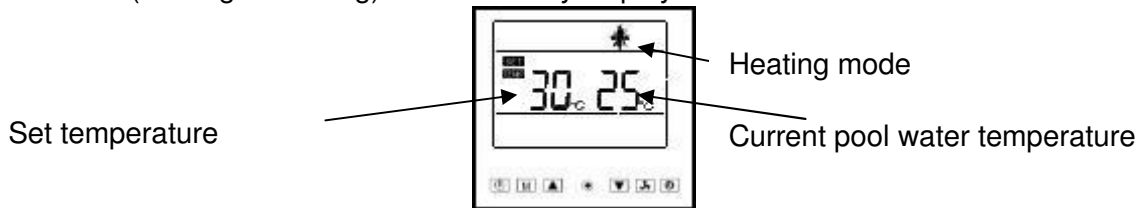
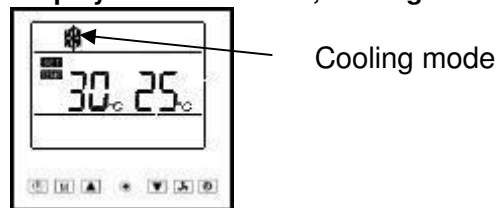

Figure 13: Heat pump display when turned on, heating mode.
Figure 14: Heat pump display when turned on, cooling mode.
To start the heat pump, press . The heat pump starts within 3 minutes. The last selected operating mode (heating or cooling20), see Figure 13, Figure 14 and Paragraph 5.2.13.8, the last temperature set and the current pool water temperature (heating or cooling) is immediately displayed.
- Heating, is displayed, see Figure 13.
- Cooling, is displayed, see Figure 14.
The temperature read by each sensor can be displayed by pressing  (for model BP-xxWS-B (xx=35, 50), press ) and hold down for 3 seconds with the pump is running, see Paragraph 5.2.4. To display temperatures read by the various sensors, press  (for model BP-xxWS-B (xx=35, 50), press ). The temperature read by the sensor is displayed for 10 seconds, if no other key is pressed, or press  to return usual information to the display, see Figure 13 and Figure 14.